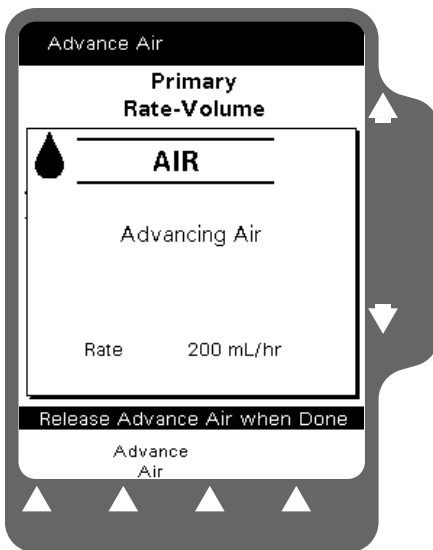

Figure 6-6 Advancing Air
2. Press and hold the **Advance Air** soft key. The pump pumps at the currently programmed rate until you release the **Advance Air** soft key (Figure 6-6).